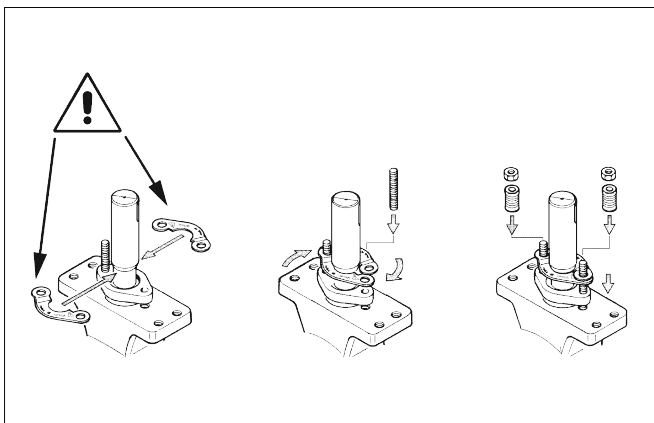

Fig. 10 Installing the retainer plates
In gland packings, tightness is ensured by the contact between the gland follower and the packing rings. See Fig. 10.
- ☐ Unfasten the nuts (25) and remove the retaining plates (42) and the gland follower (9).
- ☐ Remove the five old packing rings (20).
- ☐ Clean the packing ring counterbore. Mount the new packing rings one by one using the gland follower as a tool. Mount the retaining plates with the text UPSIDE on top (see Fig. 10).